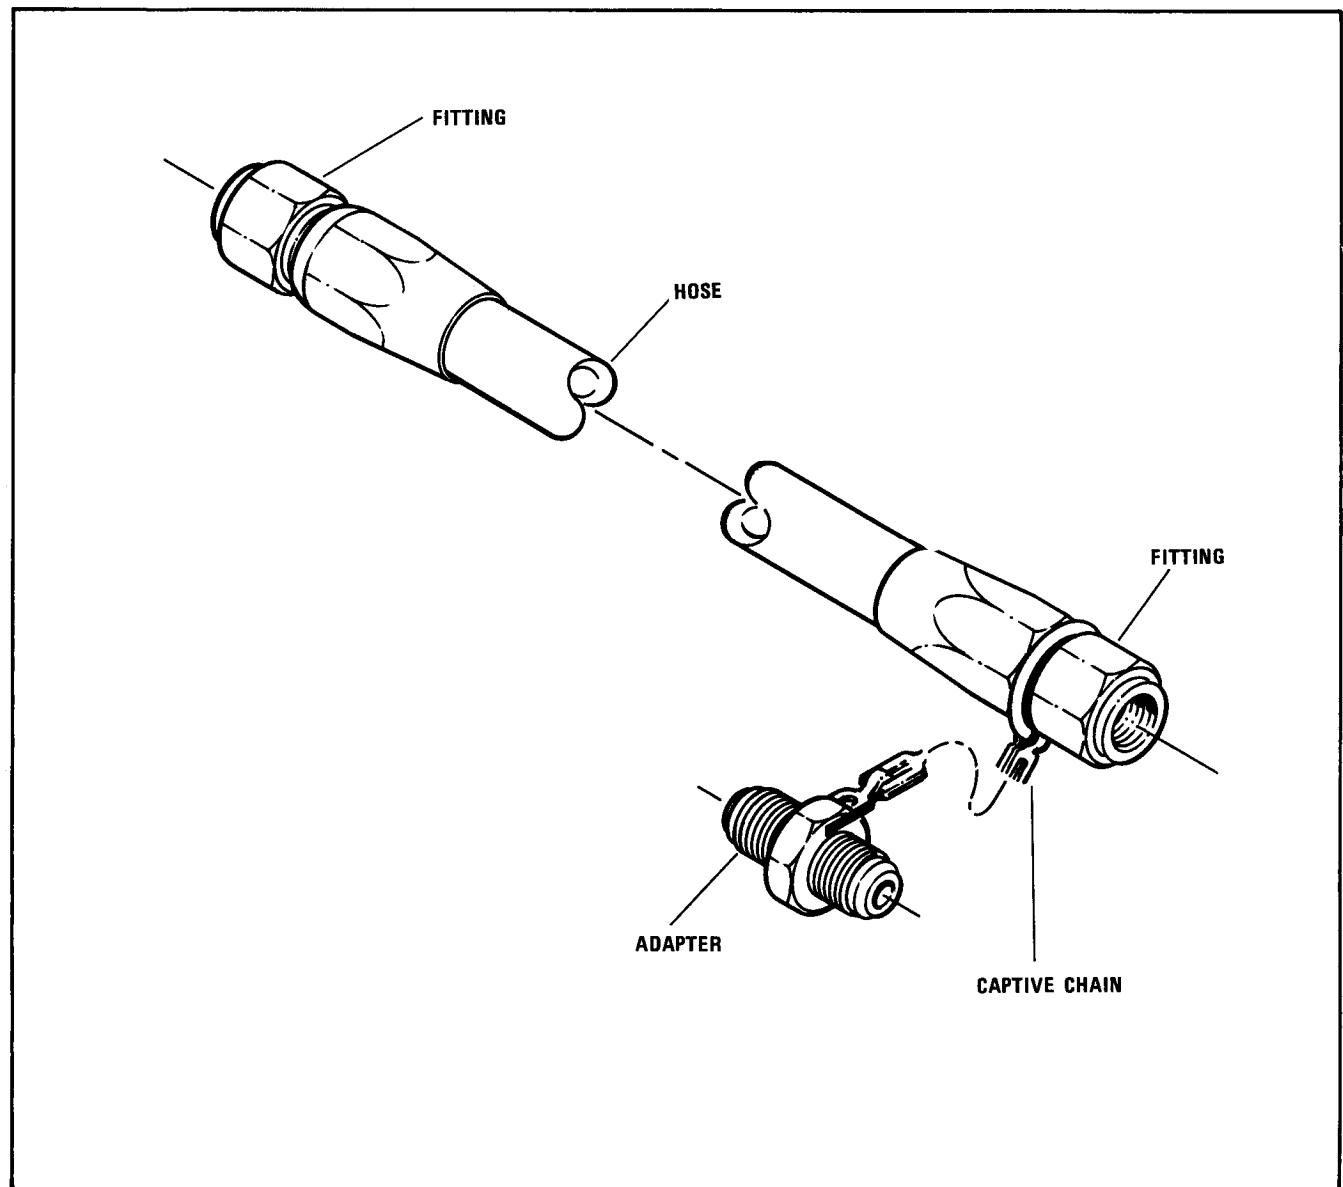

Figure 3-49. Repair of Auxiliary Fuel Line
a. Remove adapter, captive chain and fittings from hose (figure 3-49).